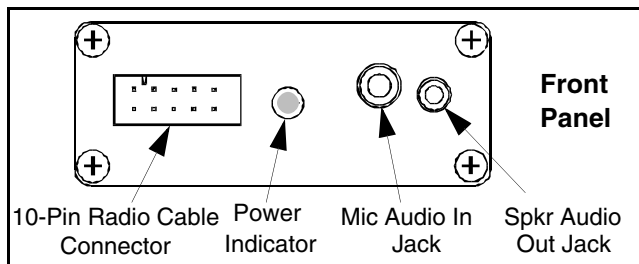

Figure 6-3 RPI Front Panel
- If the receiver squelch adjustment will be made, connect a SINAD meter to the Speaker Audio Out jack on the RPI (see Figure 6-3). This is a low level fixed audio output, and a 2.6 mm (3/32") phone jack is used.
2. Connect a SINAD meter to the receive audio jack of the RPI (see Figure 6-3) This is a low level fixed audio output.